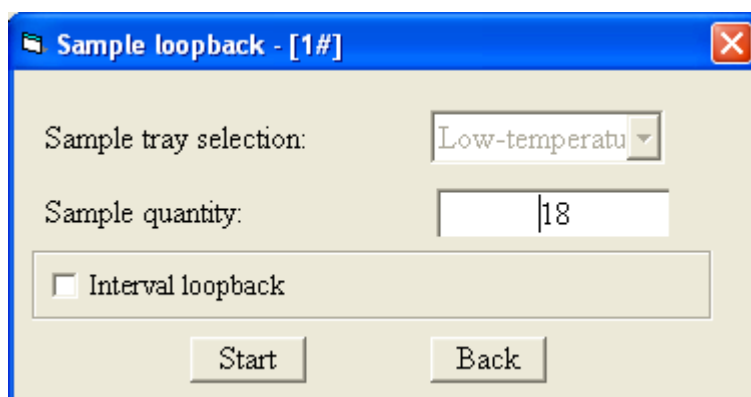

Fig.4-5-5
4. Loopback: Click this menu item to pop up the window shown in Fig. 4-5-5: